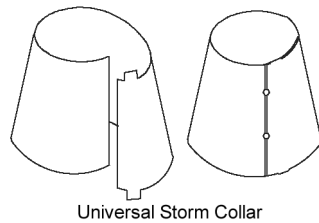

Figure 9
- Install the universal storm collar by wrapping it around the pipe (extending above the flashing) until the desired fit is achieved. Fold the tabs over the excess overlap to make adjustment easier. Trim any excess as appropriate. When the storm collar has been adjusted to its final configuration, secure with two #8  $\frac{1}{2}$ " sheet metal screws. Orient the storm collar so the seam is towards the low side of the roof slope. It is permissible to carefully trim the bottom edge of the storm collar to achieve a snugger fit around the rubber boot flashing. See Figures 9 and 10.